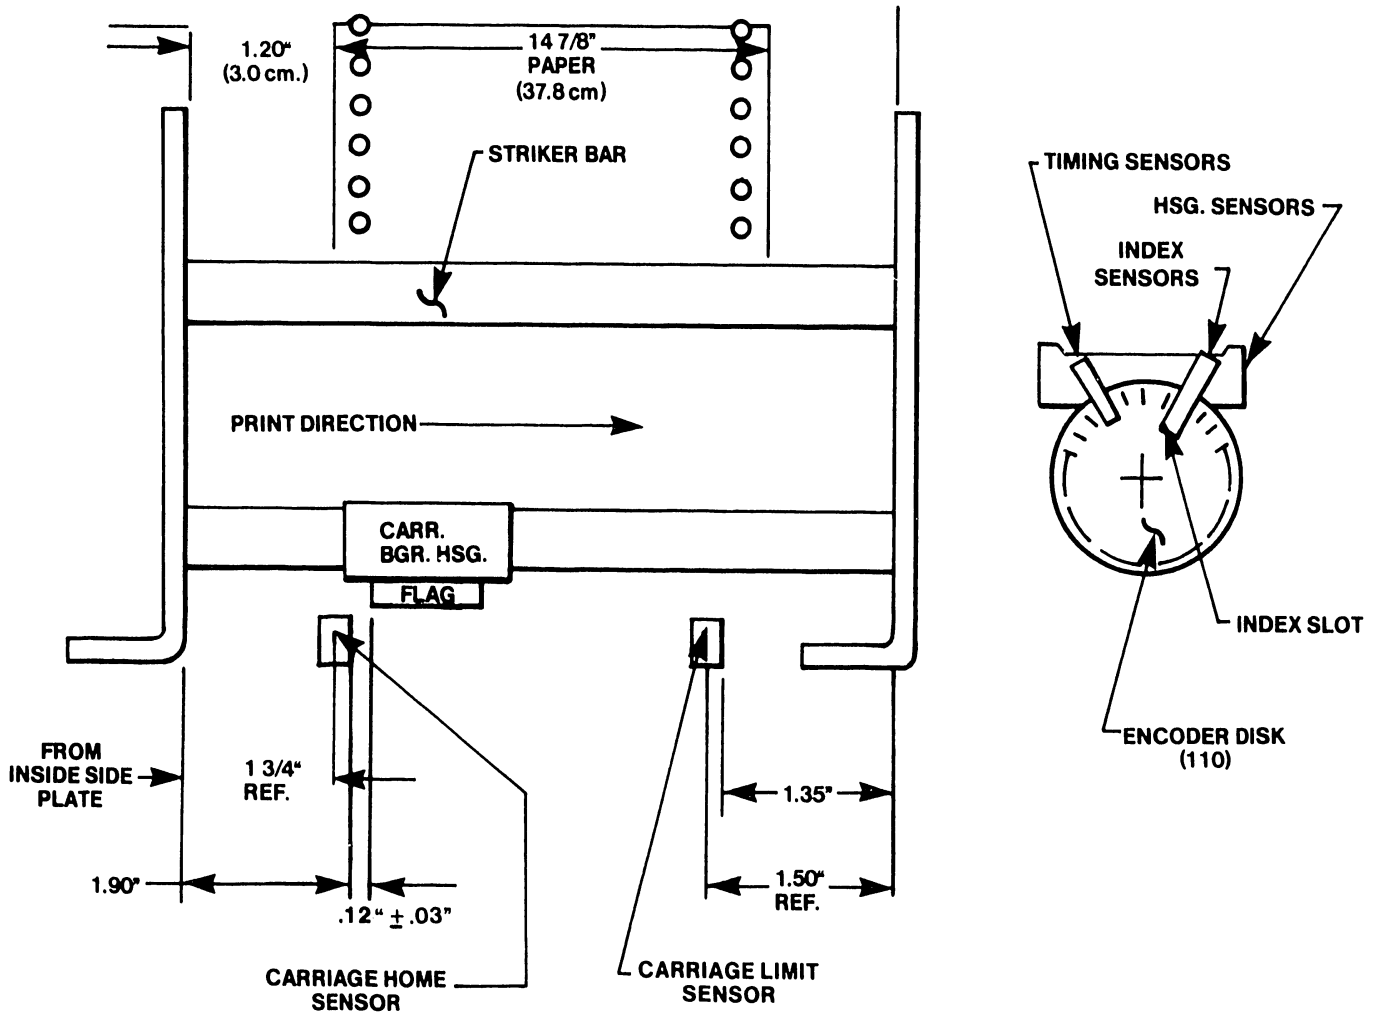

Figure 5-7 Left and Right Sensor Settings
- b. Using a 6" metal scale, measure the distance from the inside of the left side plate to the right side of the left sensor as shown in Figure 5-7.
- a. Using a Phillips screwdriver, loosen the two screws that fasten the left sensor mounting bracket to the bottom plate. See Figure 5-7 for sensor location.
- d. The carriage flag plate (under the carriage housing) must be positioned $.12" + .03"$ (approx. $1/8"$) from the right side of the carriage home sensor as illustrated in Figure 5-7. To make this adjustment and measure the results, remove the print head and bracket assembly. Place the inspection mirror in back of the drive belt in front of rear carriage support shaft. View the adjustment through cutout in carriage base plate.
- a. Using a Phillips screwdriver, loosen the two screws that fasten the right sensor mounting bracket to the bottom plate. See Figure 5-7 for sensor location.
- c. Position the left edge of the flag under the print head carriage assembly for a close tolerance of $.12" \pm .03"$ ($3.04\text{mm} \pm .76\text{mm}$) from the right edge of the left sensor as illustrated in Figure 5-7.
- a. Slightly loosen the two screws that fasten the right sensor to the bottom plate. See Figure 5-7, for carriage limit sensor location.